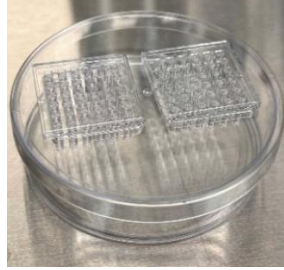

Figure 3. Hydration of the pillar plate surface in a 90 x 15 mm petri dish with 500 μL of sterile, distilled water to minimize air bubble entrapment.
9. Hydrate the surface of the pillar plate by inserting two 36PillarPlates in the 36PetriLid on a 90 x 15 mm petri dish containing 500 µL of sterile, distilled water and placing it in a 5% CO₂ incubator at 37°C for 20 - 30 minutes (**Fig. 3**).